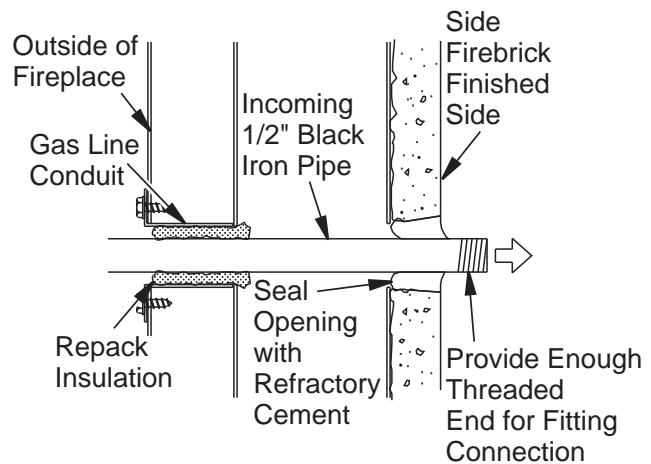

Figure 16 - Gas Line Installation
3. Run a 1/2" black iron gas line into fireplace through the rear at gas line conduit sleeve (if using a raised platform, add height). Provide sufficient gas line into fireplace chamber for fitting connection (see **Figure 16**).